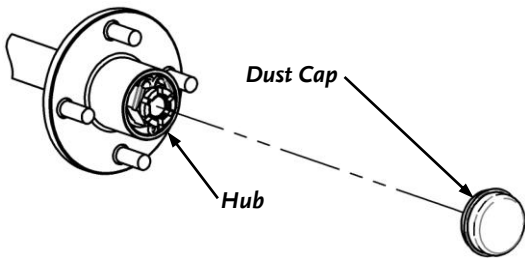

Figure 59
4. Using a Hammer and Flathead Screwdriver, tap the Blade of the Screwdriver into the groove between the Hub and Dust Cap all the way around the Dust Cap with a twisting action of the Screwdriver until the Dust Cap can be removed (**Figure 59**).